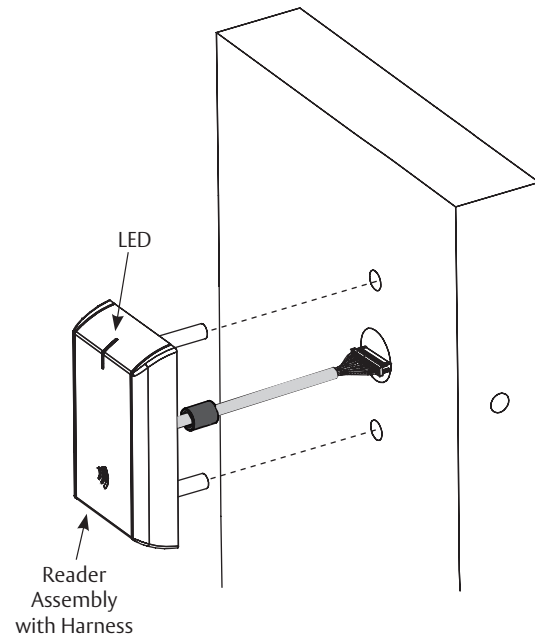

Fig. 22
- Orient reader so LED lens is at top. (Figure 22)